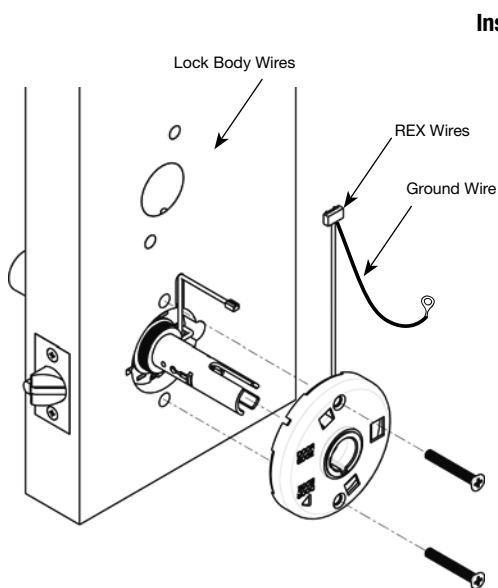

Fig. 6a
- a. Feed lock body wires and cassette (REX) wires in slot on face of door (Fig. 6a)